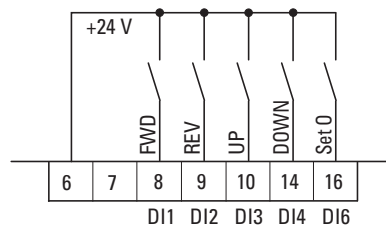

Figure 76: Motor potentiometer for both operating directions
- ▶ To activate the motor potentiometer as per Figure 76 set the following parameters:
- P3.2 = 1 Start FWD, control signal terminal 8, DI1 (DS)
- P3.3 = 2 Start REV, control signal terminal 9, DI2 (DS)
- P3.18 = 3 Motor potentiometer, increase value (UP) via control signal terminal 10, DI3